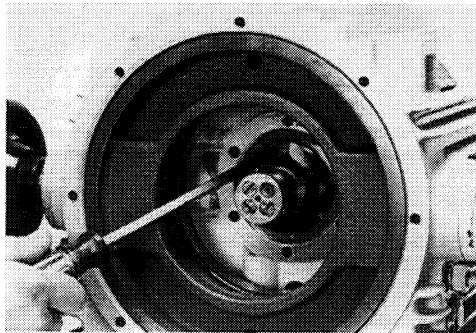

Fig. 14
Then use a screwdriver to pull out the rotor (17) (Fig. 14).